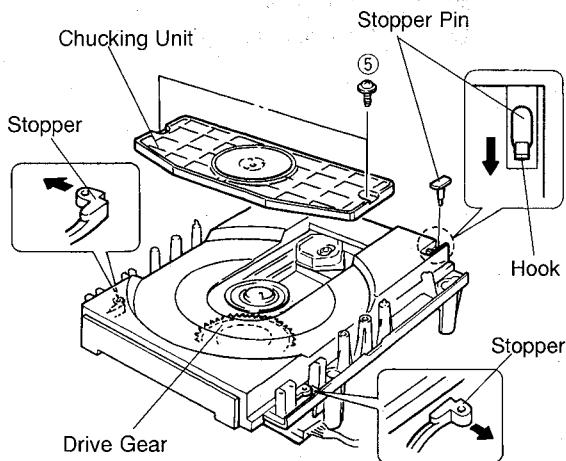

Fig. 3
- a. Remove 2 screws ( ⑤ ) and then remove the Chucking Unit in Fig. 3.
- b. Remove 1 hook and then remove the Stopper Pin in Fig. 3.
- c. Rotate the Drive Gear and then open the Tray Unit in Fig. 3.
- d. Detach the Stoppers on both sides and then pull out the Tray in Fig. 3.